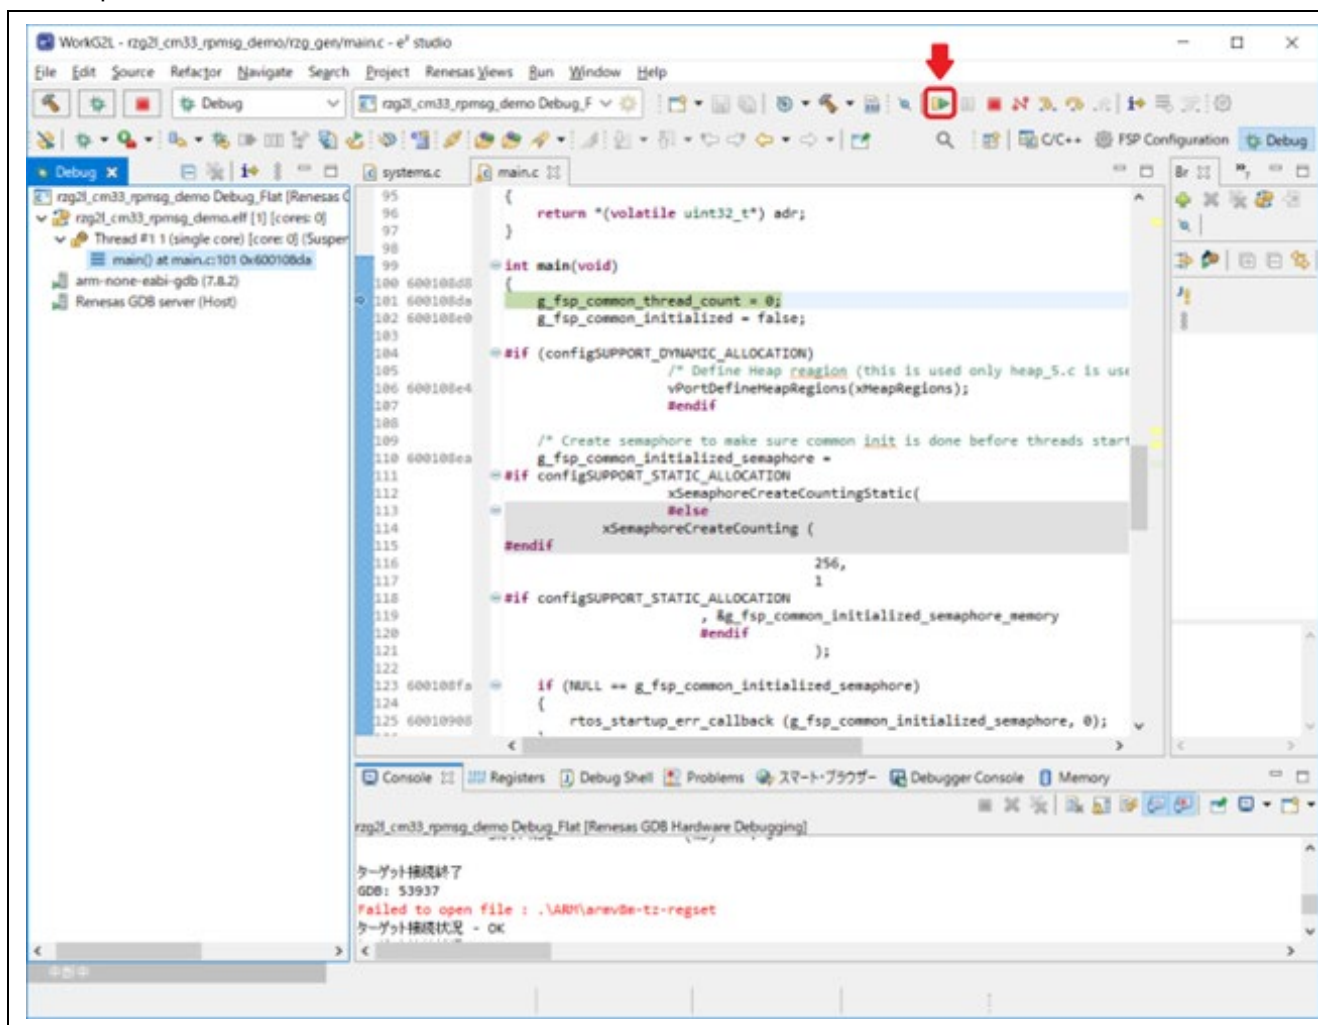

Figure 4-17. Start to debug RPMgs Sample Program (2)
9. When the debug perspective is opened, Program Counter (PC) should be located at the top of Warm_Reset_S function. Then, you need to press the button indicated by a red arrow in Figure 4-17: